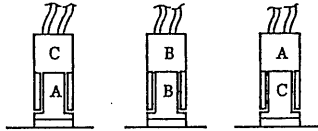

Figure 3-6
- (1) Disconnect the input power cord. Remove the cover referring to Section 4-1-3. Remove PC board A-650.
- (2) Change the connections of connectors A, B and C as shown in Figure 3-6. (See Figures 3-5 and 3-3.)